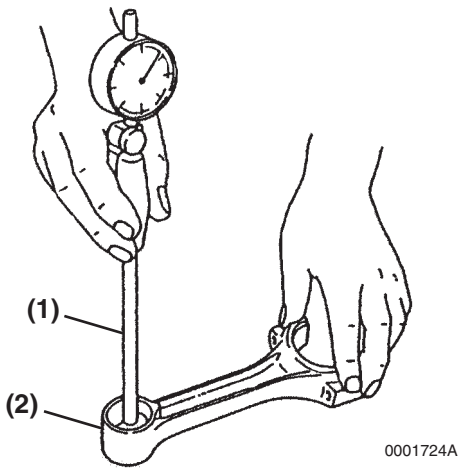

Figure 6-69
1. Measure the wrist pin bushing bore using a bore gauge (**Figure 6-69, (1)**). Replace the bushing if not within specifications. If the bushing has been removed, measure the inside diameter of the connecting rod small end (**Figure 6-69, (2)**). Record the measurements. See *Connecting Rod on page 6-12 for specifications*.